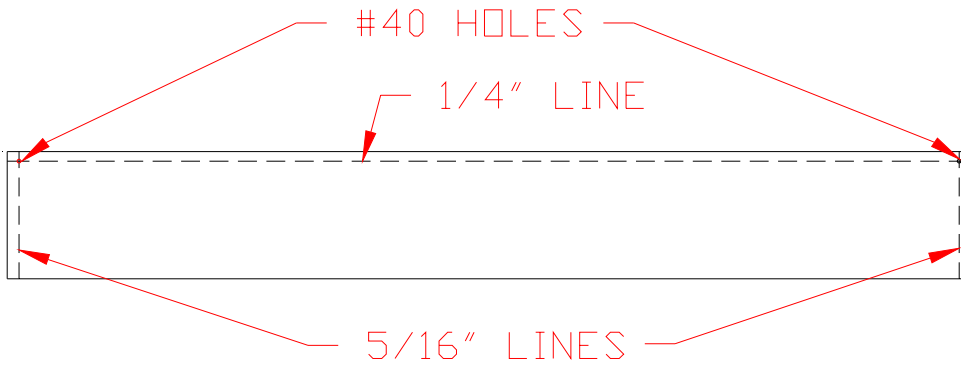

Figure 3.5.4
22) Mark a line 1/4" from the edge and a line 5/16" from the ends. Figure 3.5.4.